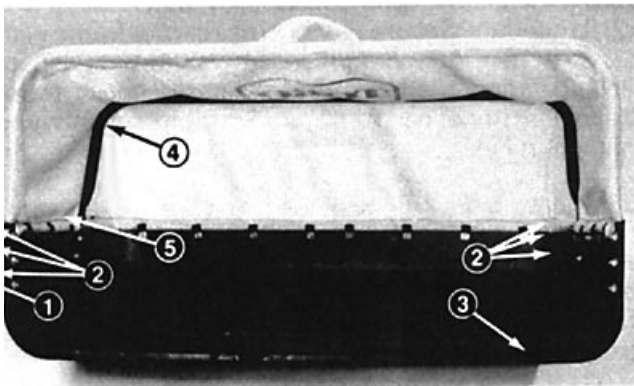

Figure 6
1. Fasten the front bag support tube (already threaded through the bag) to the inside of the bottom tray using six 5/16"-18 x 3/4" bolts and flange nuts (Fig. 6).
2. Position the rear bag support tube between the bends in the cloth rods and the inside of the bottom tray. Fasten the rear bag support tube to the bottom tray using four 5/16"-18 x 3/4" bolts and flange nuts (Fig. 6).